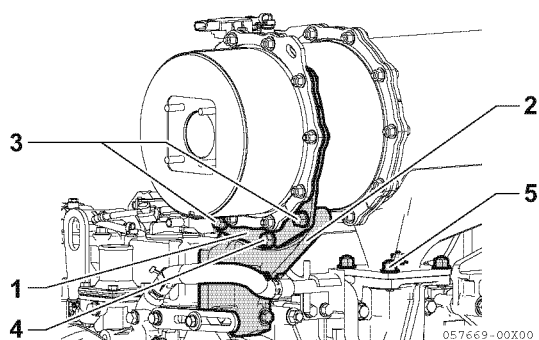

Figure 13-30
- Temporarily tighten the stiffener (**Figure 13-30, (1)**) and the DPF stay (**Figure 13-30, (2)**) on the silencer (or outlet flange) side with flange bolts (2 pcs.) (**Figure 13-30, (3)**) and a flange nut (**Figure 13-30, (4)**) until it is seated.
- Next, fully tighten the flange nuts on the exhaust manifold flange (4 pcs.) (**Figure 13-30, (5)**), then fully tighten the DPF stay flange bolts and flange nuts.